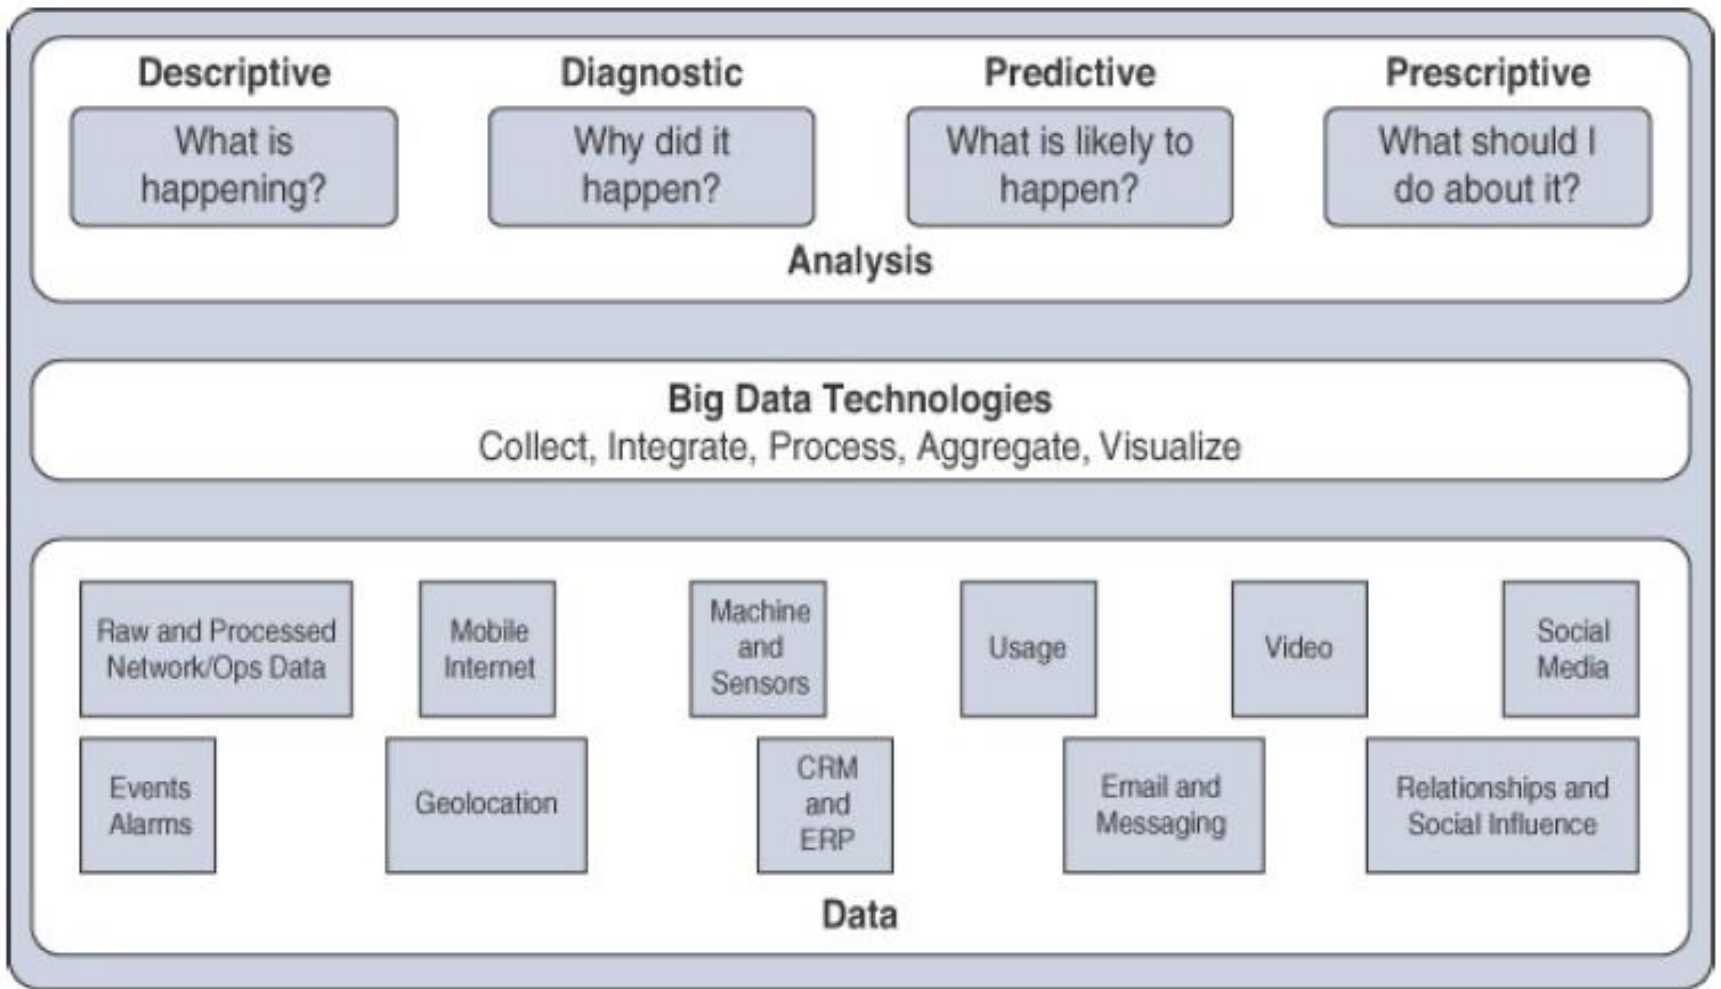

Figure 7.3 : Types of Data Analysis Results
- Data analysis is typically broken down by the types of results that are produced. As shown in the figure 7.3, there are four types of data analysis results: